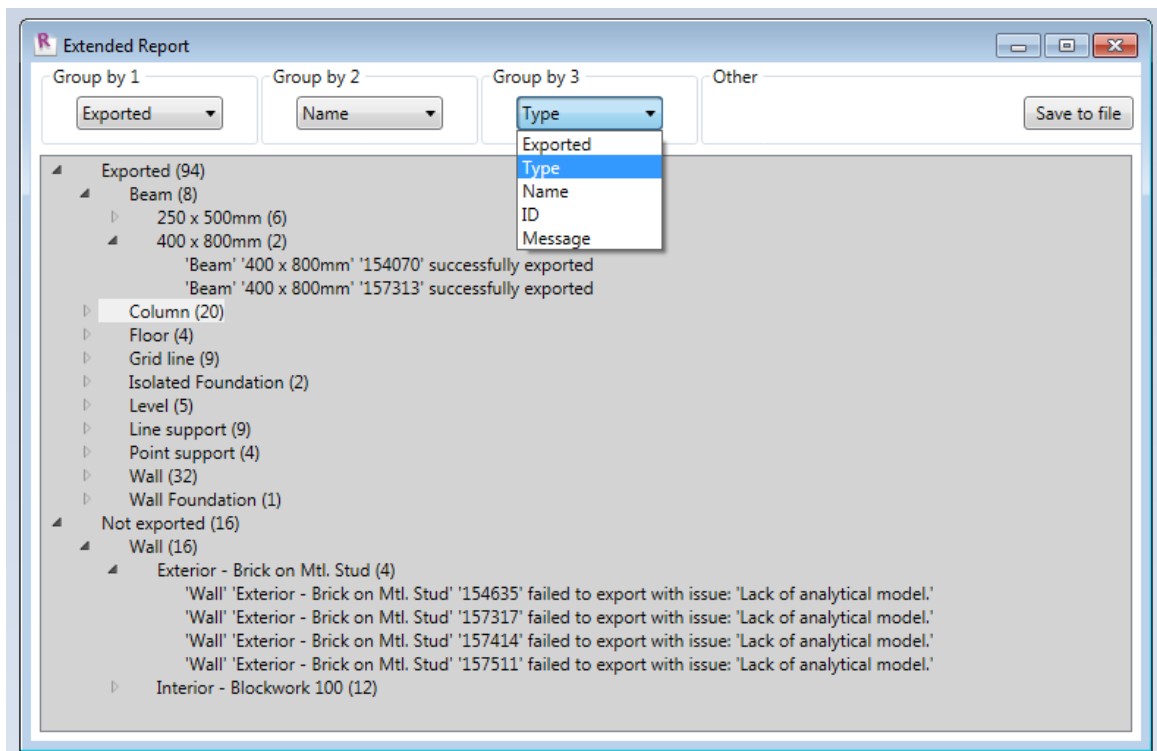

Figure 4-24
Figure 4-24 shows an example of how the report can be arranged. In the first group, elements are grouped by *Exported* into exported (94 elements) and not exported elements (16). Then elements are grouped by *Name*. There are 8 beams exports, 20 columns, 4 floors, 9 grid lines, etc. There are also 16 walls that were not exported. Finally, the elements are grouped by *Type*.